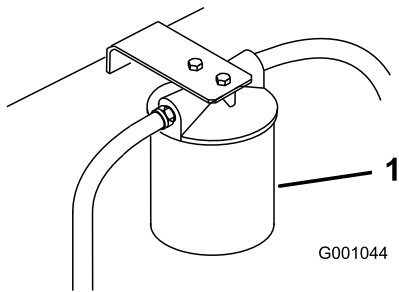

Figure 84
3. Place drain pan under filter, remove the old filter and wipe the filter adapter gasket surface clean (Figure 84).